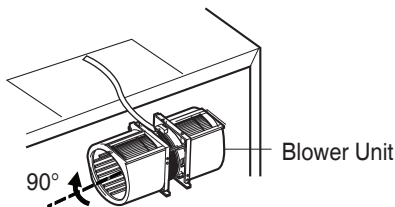

Figure 21
3. Rotate blower unit 90° so the exhaust ports face the top of the cabinet. See Figure 21.